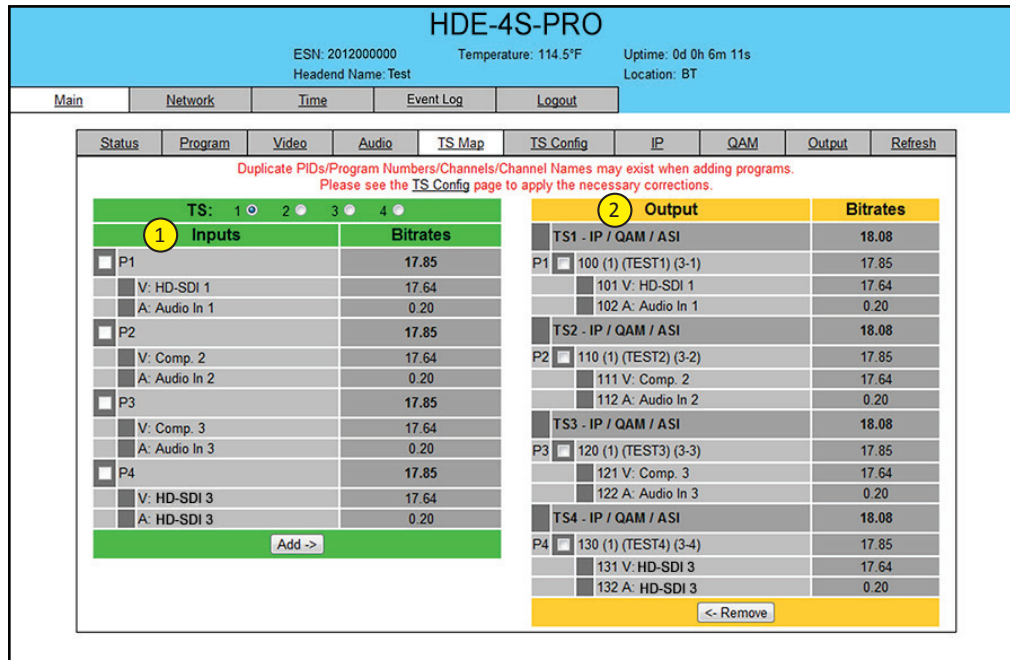

Figure 5.6 - "Main > TS Map" Screen
The "Main > TS Map" screen (Figure 5.6) is a "read and write" screen to assign programs to TS(s):
- Select the desired program; for example, P1 as shown in figure 5.6.
- **Add:** Once the selection of programs is completed, select the "Add" button. This will add the selected programs to the Output as shown in 2 of Figure 5.6.
PIDs, Program Numbers, Channels or Channel Names must be unique in a MPTS output stream. The user must edit the duplicated values using the “Main >TS Config” Screen (see Section 5.7 for details). The duplicate values will be highlighted in red color under **2** of Figure 5.6